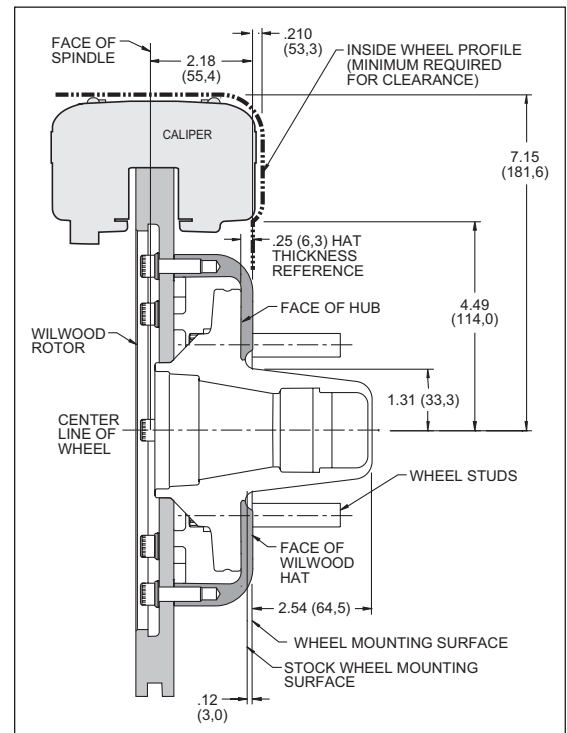

Figure 2. Wheel Clearance Diagram
Before any tear-down or disassembly begins, review the wheel clearance diagram (Figure 2, below right) to verify that there is adequate clearance with the wheels you will be using with this installation.
- Verify wheel clearance, see Figure 2.